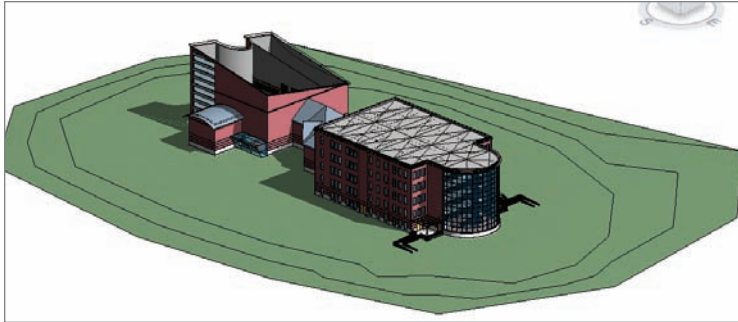

FIGURE 18.5 The toposurface
12. Go to a **3D** view and check out your site, as shown in Figure 18.5.